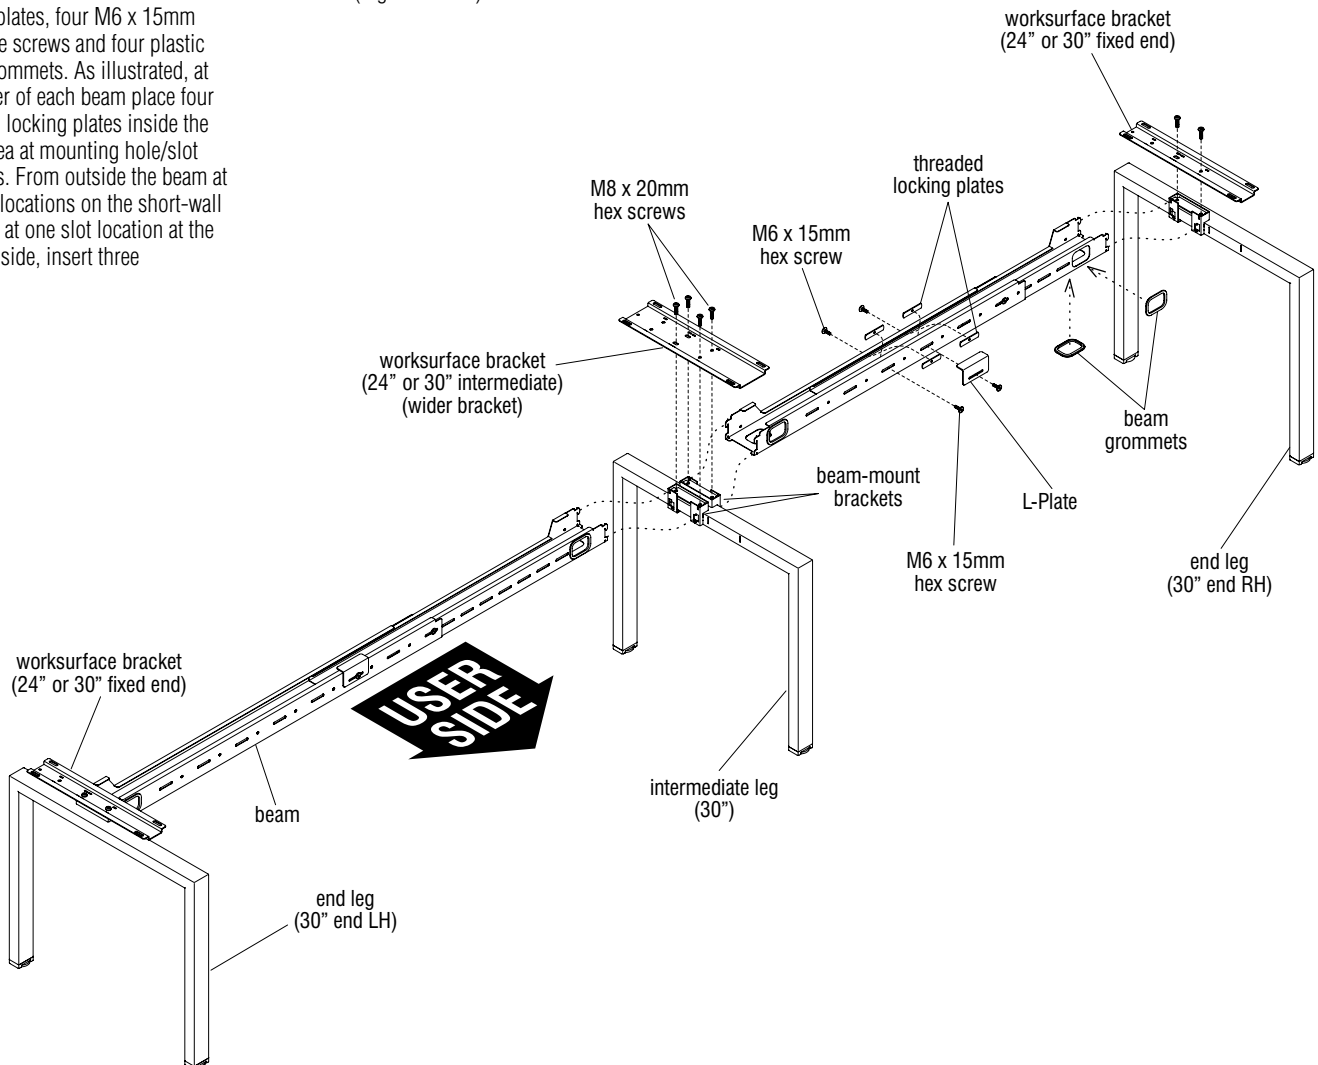

Figure 2 - Single-Sided Fixed Benching, Multiple Worksurface "Adder" Legs & Beams
**Note:** If installation requires intermediate legs with additional beams for multiple worksurfaces (as most do), see Figure 2 (next page) and follow step 3 below. All beams must be installed to intermediate and end legs before attaching worksurface brackets.
**Note:** Figure 1 shows end legs only, with "fixed end" worksurface brackets being installed. Figure 2 shows an intermediate worksurface bracket (a wider bracket) installing to an "intermediate" leg (as well as "end" legs and end worksurface brackets).
3. Intermediate legs (with two beam-mount brackets per leg) are used in multiple top, "adder" runs of worksurfaces (Figure 2). Attach beams to intermediate legs per the space-planning layout and as described in step 2 (Figure 2).